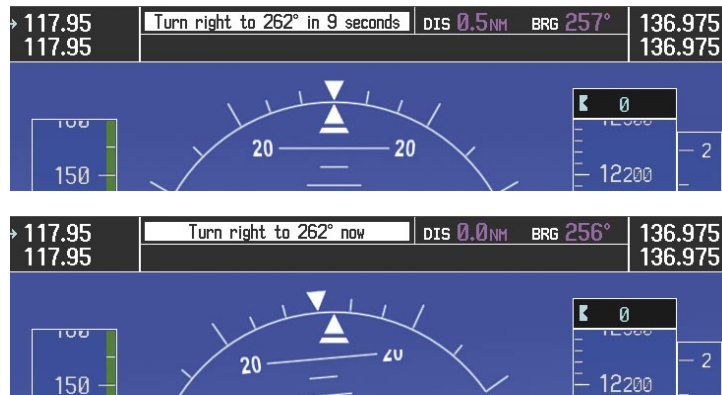

Figure 5-114 Turn to Intercept V244
- 8) At SLN, Victor Airway 244 (V244) is intercepted. Turn prompts are displayed in the PFD Navigation Status Box as seen in Figure 5-114.